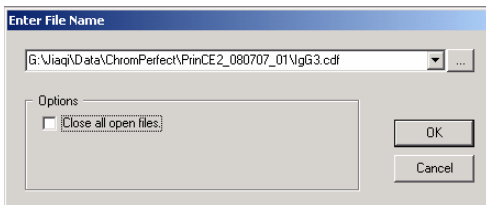

Figure A-4: Previously Opened Data File
- Open a data file by highlighting it and click **Open** button. Or use the drop-down button to select a previously opened data file in the file name inquiry window (Figure A-4).